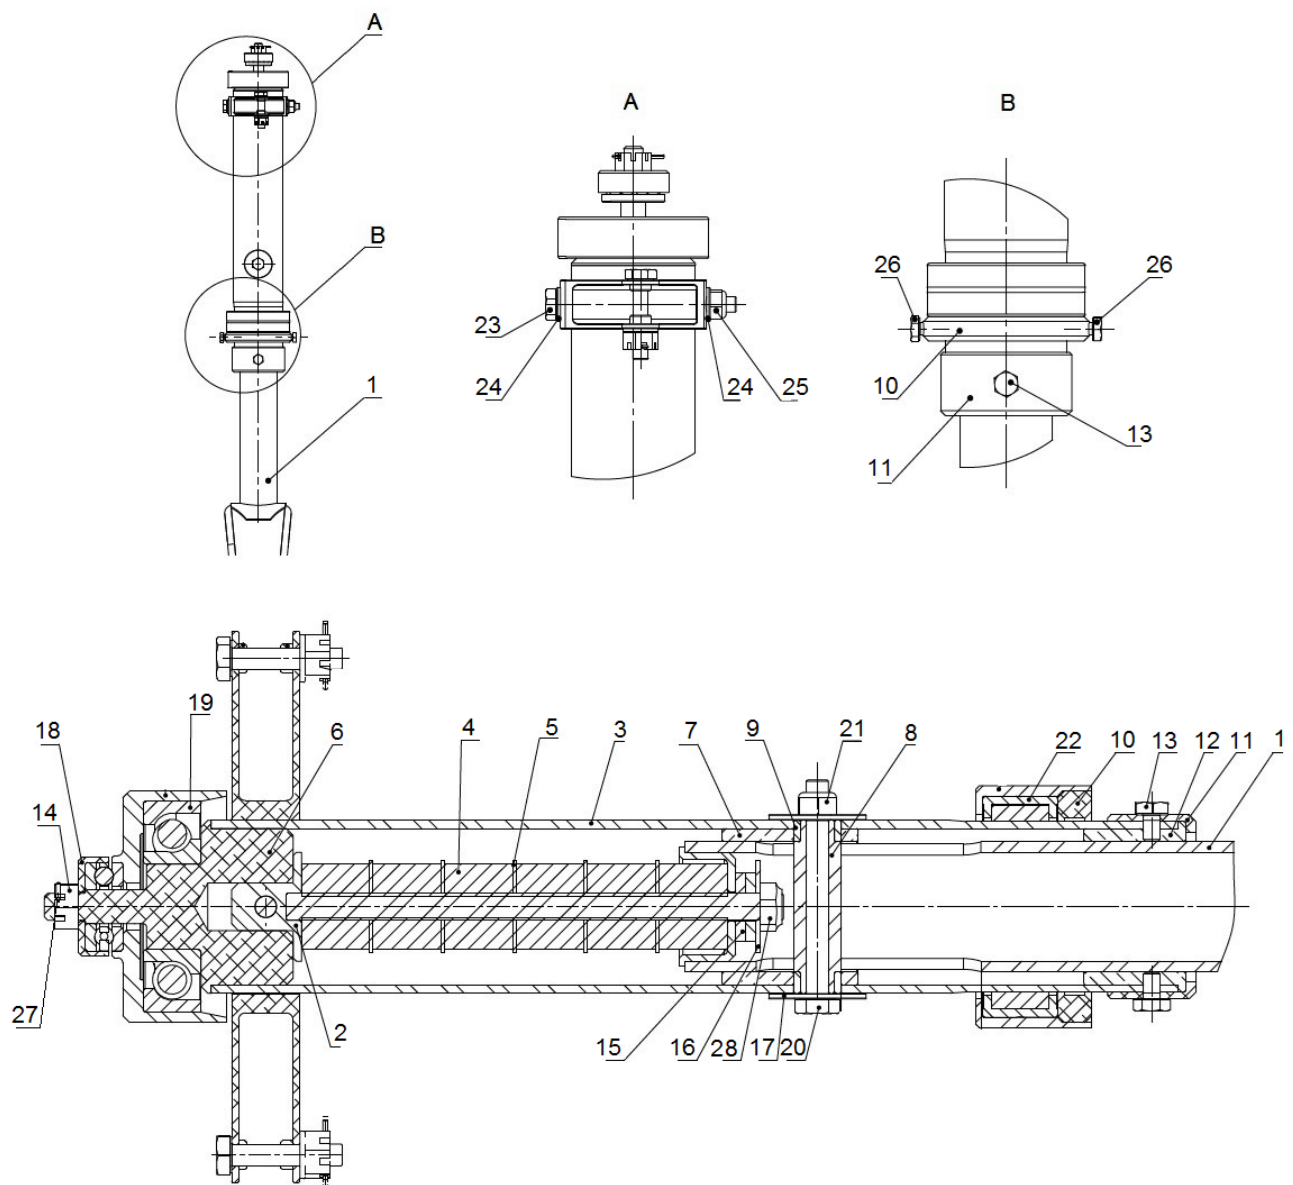

Fig. 32-20-7
B. Strut Disassembling (Fig. 32-20-7)